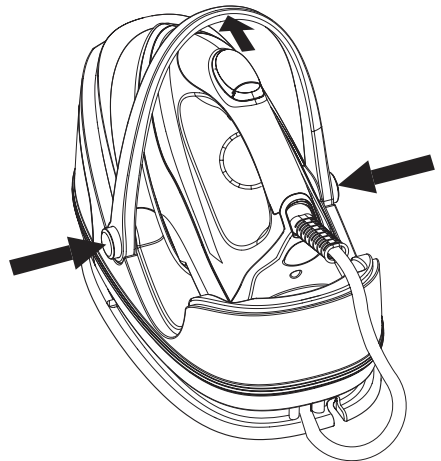

FIG. 1
Step 2 - Press the handle buttons located on the sides of the iron, shown in (Fig. 1) to lay the handle down.